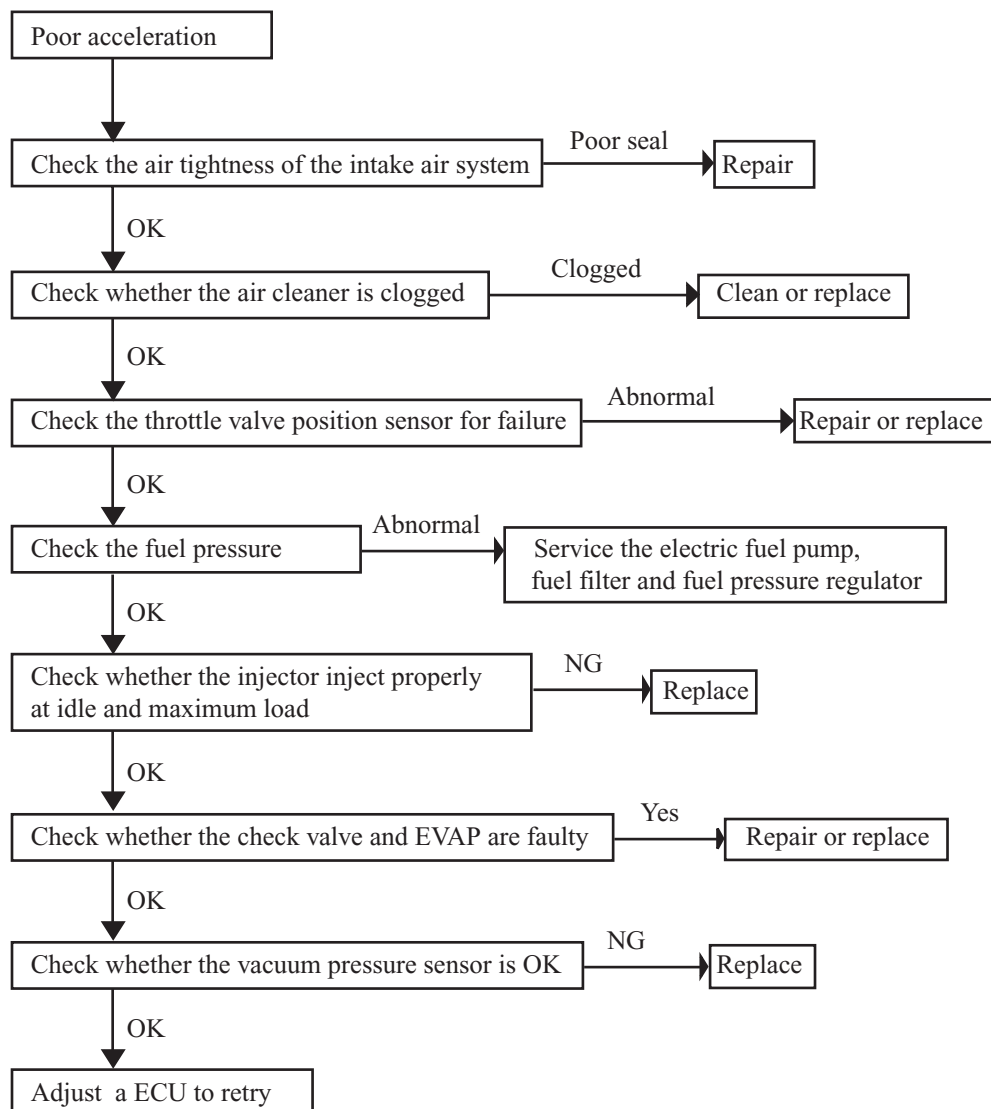

Figure 151
(2) Causes and Troubleshooting
(3) Diagnosis procedure for poor acceleration (Figure 151)